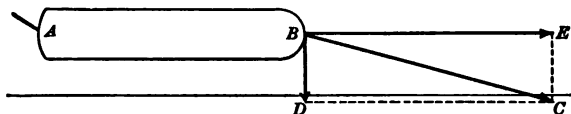

FIG. 119. — Useful component of force on canal boat.
Thus in figure 119 we have a canal boat  $AB$  which is being towed by the rope  $BC$ . We may resolve the force along the rope  $BC$  into two components, one of which,  $BE$ , is
7. In figure 119 the canal boat is 10 feet from the shore, and a pull of 200 pounds is exerted on the 50-foot towline. What is the effective component?